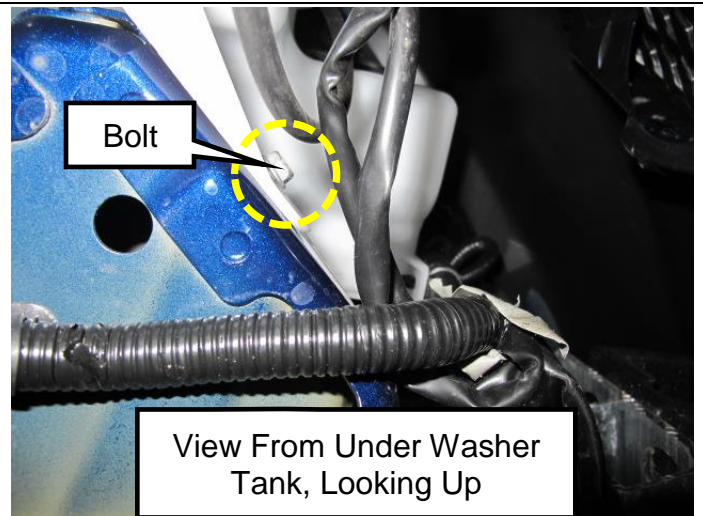

Figure 10
- Access to the bolt is reached from under the washer tank (Figure 10)